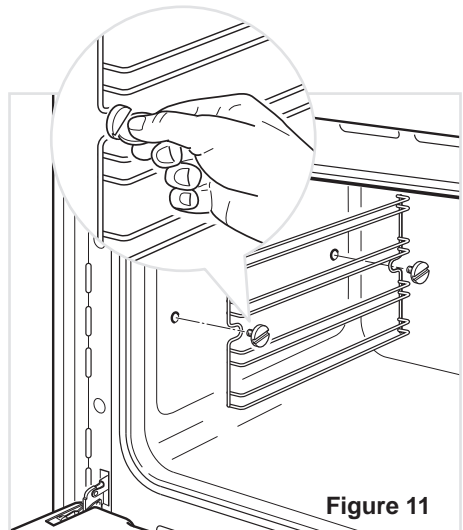

Figure 11
- Assemble the wire racks to the oven walls using the 2 screws (Fig.11).
- Unscrew the fixing screws and slide off the wire racks to the oven wall as in fig. 11.